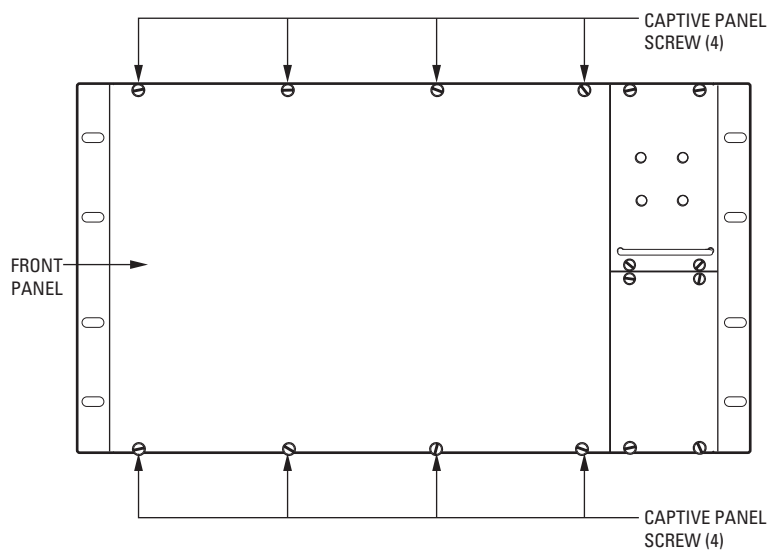

Figure 1. CM9740-MXB Front Panel
1. Remove the front panel of the matrix bay by loosening the eight captive panel screws indicated in Figure 1.